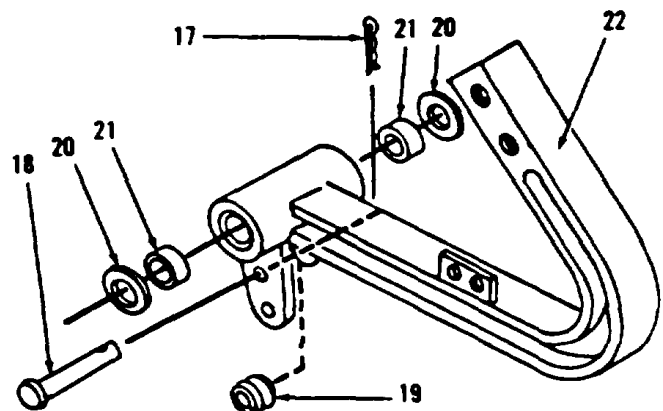

Figure 6-16.
4. Remove nut (12), bolt (13) and nut (14).
6. Remove and discard cotter pin (15) from bracket and pedal (22).
7. Drive shaft (16) towards inner frame and lubricate shaft (16) with clean oil.
8. Using suitable pliers, push shaft (16) toward outside of vehicle while depressing governor control pedal.
9. Remove items 17 thru 22 as an assembly from bracket.
10. Remove cotter pin (17), pin (18) and roller (19) from pedal (22, Figure 6-16). Discard cotter pin (17).
11. Remove two washers (20) and roller bearings (21) from pedal (22).